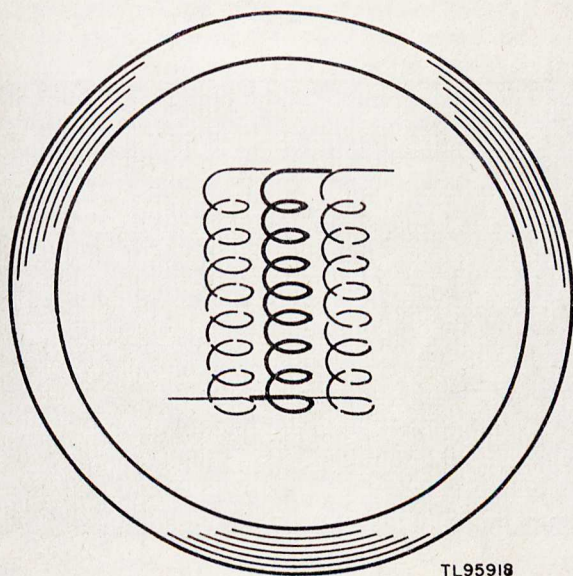

Figure 26. Diffraction pattern.
drop in intensity and this drop will be exactly equal to the intensity of the side images. This is called a diffraction pattern (fig. 26) showing the central image and first order diffraction images. (The incidental image described in paragraph 41a (1) is not shown in figure 26.) In general there may be additional side orders visible, and the pattern may not be symmetrical. The action of the modulating cell therefore may be described briefly as causing some of the light to be deflected to the right and to the left of its original direction. The diffraction pattern may also be observed by looking directly at the lamp in the transmitter chamber, through the filter.